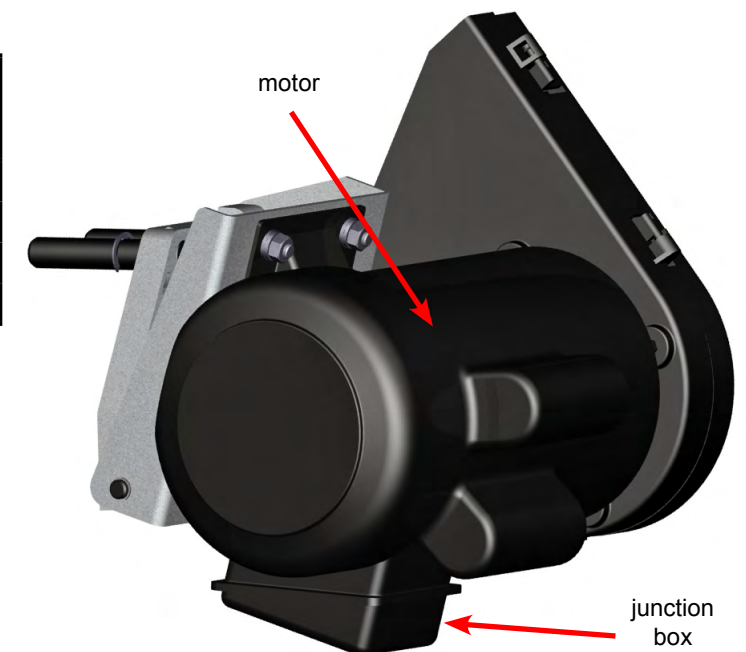

Fig. 38
- Locate the junction box underneath the motor (see Fig. 38 on page 35) and remove the cover by loosening the Phillips-head screw.